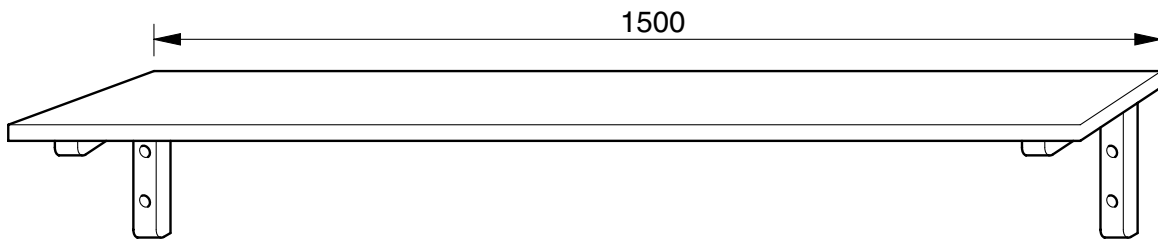

Fig. 2
- 7 Fig. 2 shows a shelf to be used for heavy items. Explain why chipboard is not suitable.